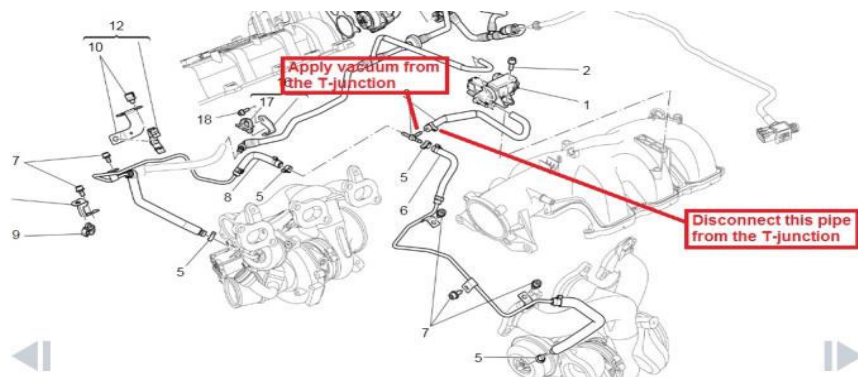

Figure 4 – Vacuum pump positioning
- 6) Disconnect the wastegate vacuum system from the point shown in figure 4 and check using a vacuum pump (for ease of access, install the pump after the output of the wastegate modulator):